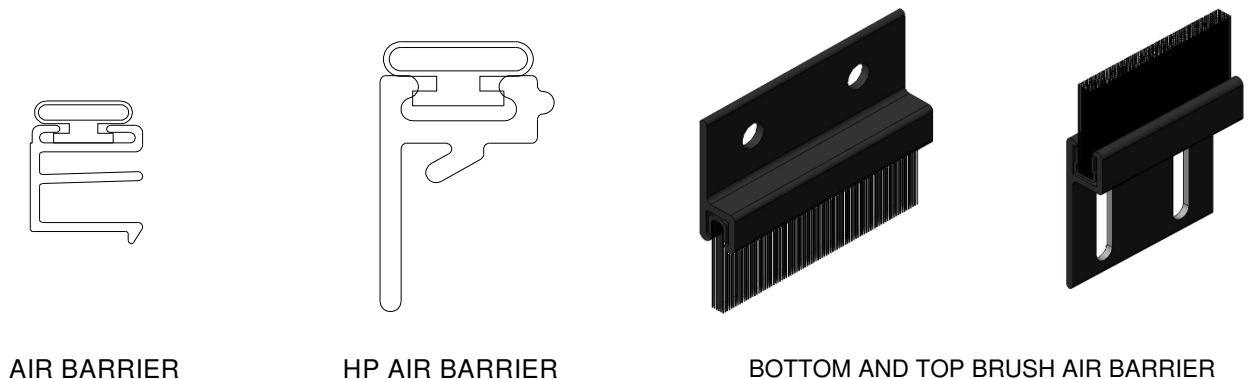

Figure 22:
After all panels have been adjusted plum and level and panels close and lock, open panels and install air barriers. Install Air Barrier (Figure 22) into the groove at the top and bottom of the exterior interlockers. Air Barriers bottom & top (Figure 22) are attached to all sliding interlockers and secured with (2) #6 x 3/8" long self-tapping screws.